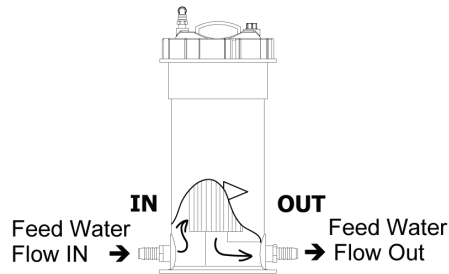

Figure 5b: Follow the labeling - NOT the molded arrows and lettering
The optional Commercial Prefilter replaces the 10 in. (25.4 cm) Dual Prefilters. The Commercial Prefilter is mounted to a flat horizontal surface using the supplied screws. Maintain an orientation and accessibility that allows the operator access to remove the filter element for maintenance. Allow minimum 12 in. (30.5 cm) above the top of the housing for filter element removal. Mount the Commercial Prefilter in close proximity to the outlet of the Booster Pump and the System frame. The commercial prefilter is plumbed as per the raised arrow and Inlet & Outlet letters molded into the filter housing. The correct water flow enters the outer surface of the filter element and migrates to the center core. Refer to PAGE 5-4, fig. 5b
14. The Oil/Water Separator is mounted to a flat horizontal surface using supplied screws. Maintain an orientation and accessibility that allows the operator access to remove the filter element for maintenance. Allow minimum 12 in. (30.5 cm) above the top of the housing for filter element removal. Mount the Oil/Water Separator in close proximity to the outlet of the Booster Pump and the System frame. Inlet and Outlet labels (stickers) indicate the correct plumbing for the Oil/Water Separator. Follow the stickers, not the molded arrow and lettering. Refer to PAGE 5-3., fig. 5b
WARNING NOTE (Refer to pg. 5-3, fig. 5b.): The Oil/Water Separator utilizes the same filter housing as the Commercial Prefilter.